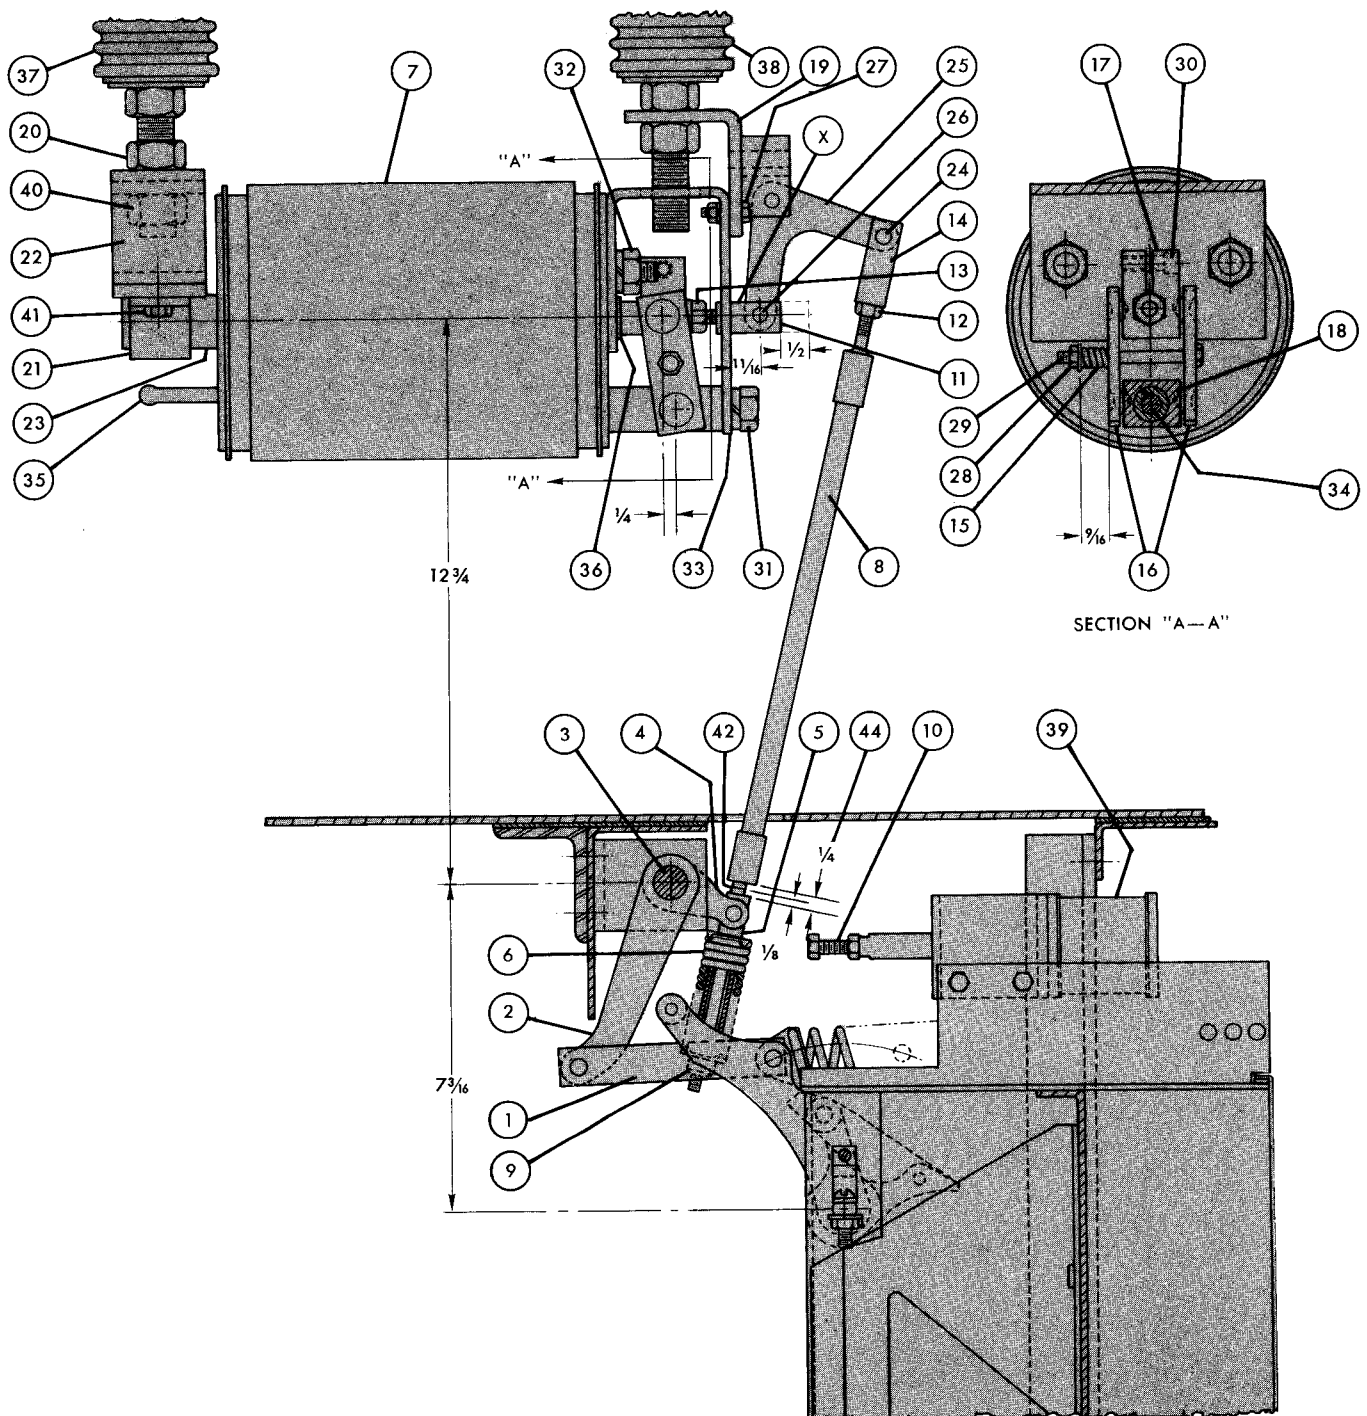

Fig. 19. Vacuum Interrupter and Mechanical Linkage.
VACUUM INTERRUPTER ASSEMBLY (Figure 19)
1. Assemble SPACER NUT (34) on stud, making sure the SEAL TUBE (35) is in location as shown in Figure 19.
2. Slide CONTACT BLOCK (18) on SPACER NUT (34).
3. Assemble SUPPORT PLATE (33) and CONTACT BLOCK (17) together. Counterbored end of (17) goes toward vacuum interrupter and turn clockwise. *Important:* Be sure to include the NYLON BEARING (36) with SUPPORT PLATE (33).
4. Assemble BOLT (31) and NUTS (32) with lockwashers and secure.
5. Turn in CONTACT BLOCK (17) until the center of the tapered contact indent in each side is $\frac{1}{4}$ " nearer to the interrupter than is the center of the tapered groove in CONTACT BLOCK (18) as shown. *Important:* Be sure the side surfaces of the CONTACT BLOCKS (17) and (18) line up with each other (i.e. form a common plane) and secure LOCKING BOLT (30). Loosen BOLT (31) and retighten if necessary.
6. Assemble current-carrying LINKS (16), BOLT (29), NUT (28) and SPRING (15) as shown in section A-A.
7. Assemble CLEVIS (11) with NUT (13) loosely as shown, avoiding transfer of torque to the moving contact and its bellows.
BUSHING ASSEMBLY (Figures 19 and 20)
When installing the new bushing assembly items (37) and (38) (see Fig. 19), observe the precaution described under "Vacuum Interrupter Assembly" so as to position the height of the SUPPORT BRACKET (22) in a manner to avoid strain upon the interrupter assembly.